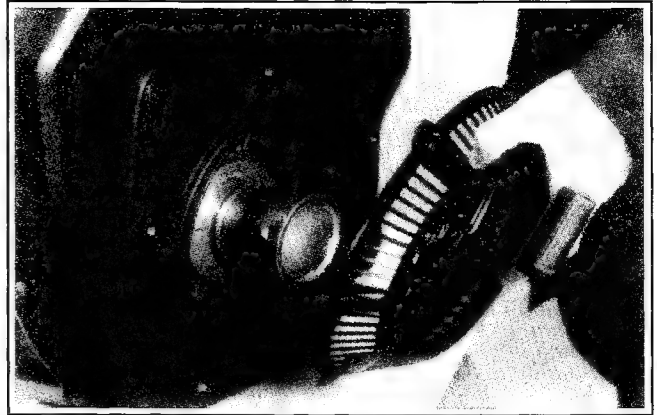

Figure 7-11. Installing Retractable Starter.
8. Install the starter to the engine blower housing. See Figure 7-11.